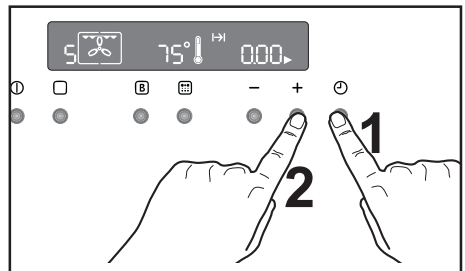

Fig. 9
2. Press button  to select the "Cooking Duration" function (Fig. 9). The "Cooking Duration" symbol  will flash and the control panel will display "0.00". (Fig. 9).